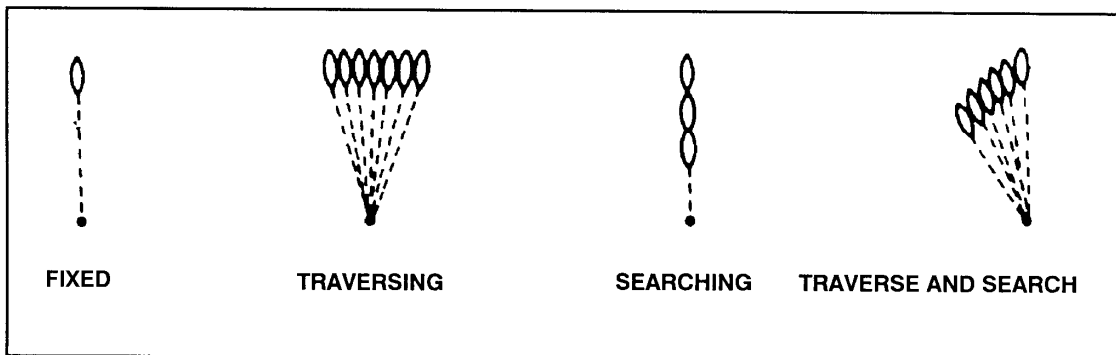

Figure 6-6. Classes of fire with respect to the weapon.
c. Fire with respect to the **weapon** (Figure 6-6) includes fixed, traversing, searching, and traversing and searching fires.